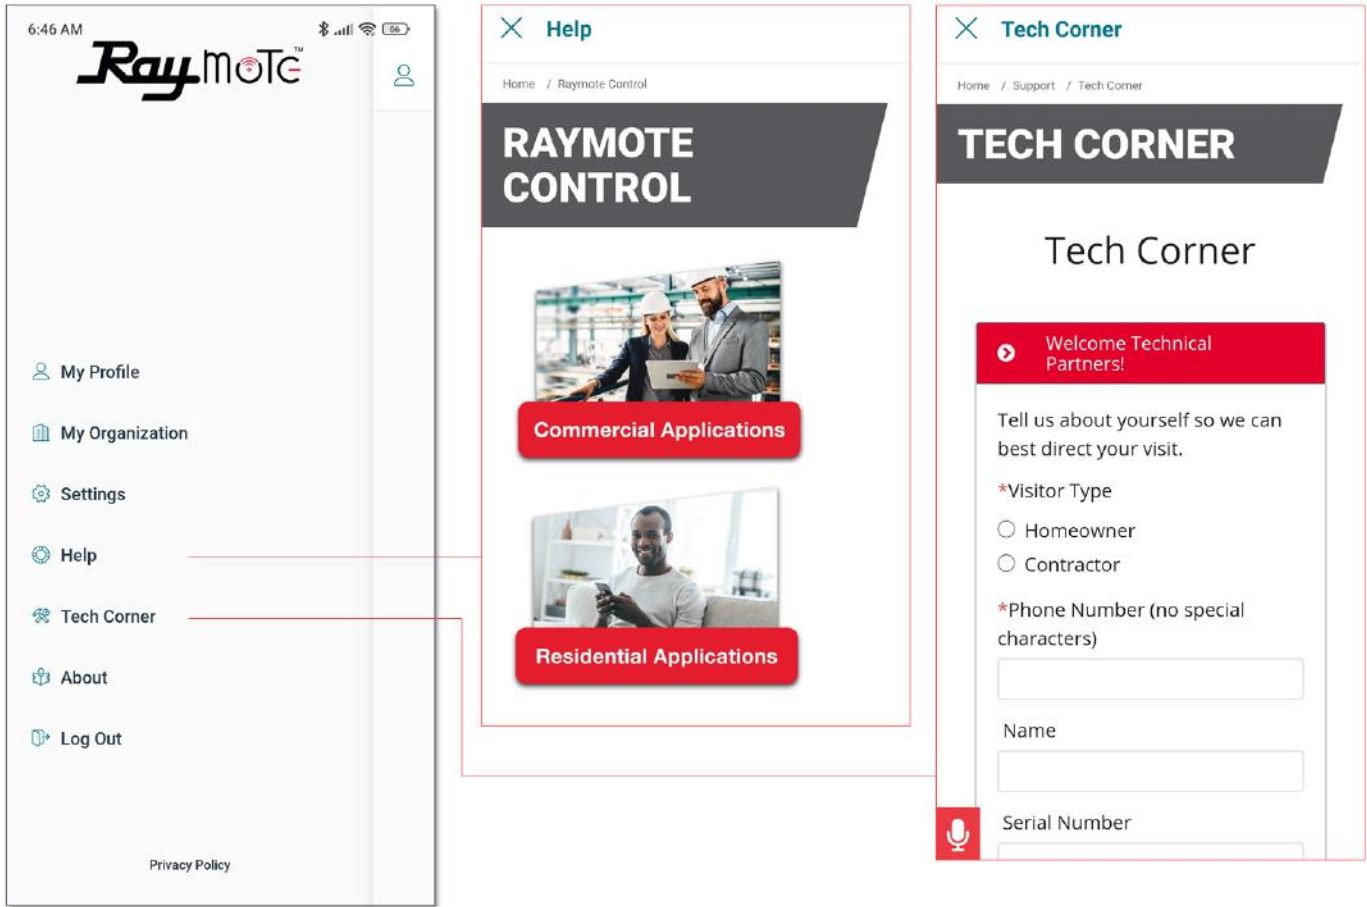

Figure 85. Help and Tech Support
- In-App access to Raypak Tech Corner collection. You can find here detailed instructions for Raypak products and service kits. See Figure 85.